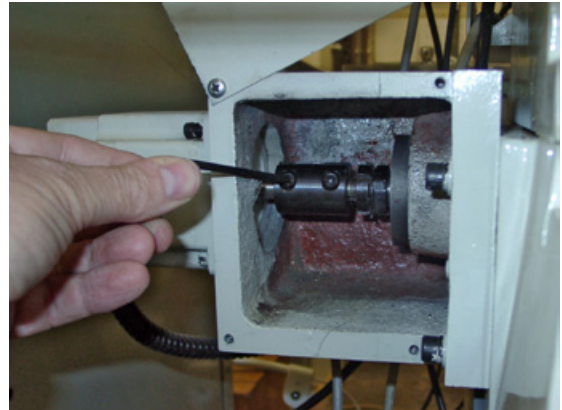

Figure 2.6: Coupling the Y Drive Motor
- Ensure that the coupling is centrally positioned on motor shaft and the machined end of the ballscrew and tighten the cap screws on the coupling. Then tighten the cap screws holding the motor (figure 2.6).